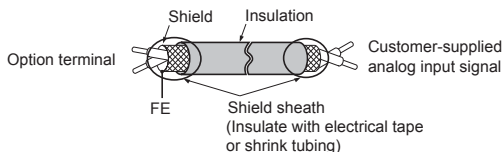
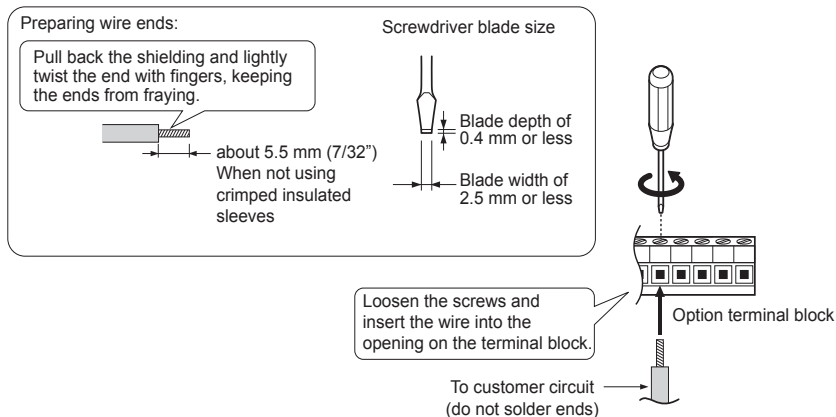

Figure 7 Preparing Ends of Shielded Cable
Figure 8 Preparing and Connecting Cable Wiring
5. Prepare and connect the wire ends as shown in **Figure 7** and **Figure 8**. Refer to **Wire Gauges and Tightening Torques on page 20** to confirm that the proper tightening torque is applied to each terminal. Take particular precaution to ensure that each wire is properly connected and wire insulation is not accidentally pinched into electrical terminals.